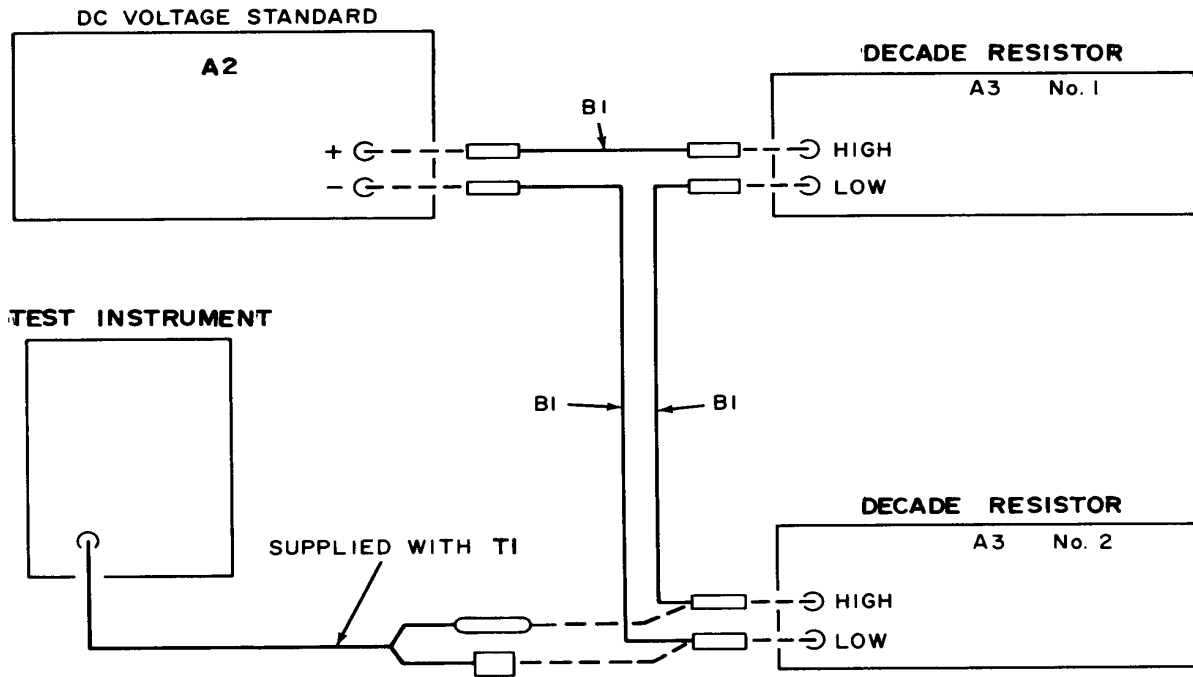

Figure 2. Dc voltage - equipment setup.
- (1) Connect equipment as shown in figure 2.
- (2) Adjust decade resistor (A3) No. 1 for 999,990 ohms and decade resistor No. 2 for 10 ohms.
- (3) Set RANGE switch to 10 MICROVOLTS.
- (4) Adjust dc voltage standard (A2) for a full-scale indication on TI meter. If dc voltage standard does not indicate between 0.97 and 1.03 V, perform **b** below.
- (5) Vary output of autotransformer (A1) from 105 to 125 V while maintaining full-scale indication on TI meter with dc voltage standard. Dc voltage standard indication will remain between 0.97 and 1.03 V.
(6) Adjust autotransformer for 115 V output.